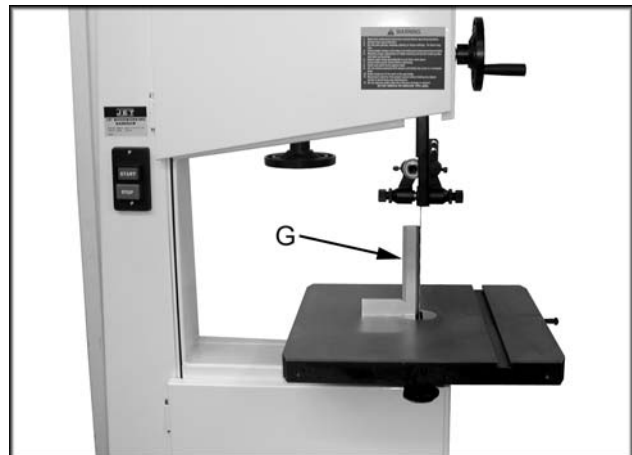

Figure 7
3. Use a square (G, Fig. 7) placed on the table and against the blade to see if the table is 90 degrees to the blade.